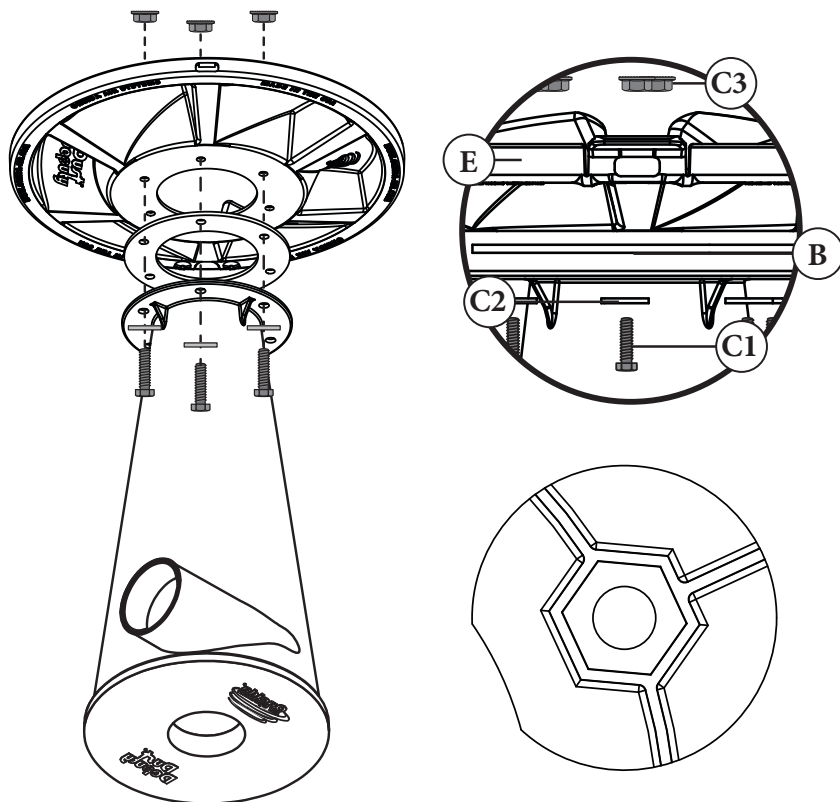

FIG. 3
Turn Cyclone (A) upside-down. Place Gasket (B) on the base of Cyclone and align all the holes. Place the topside of the Lid (E) against Gasket and align all holes. Secure Cyclone, Gasket and Lid together using six Bolts (C1), six Washers (C2), and six Whiz-Lock Nuts (C3) as shown in [FIG. 3].